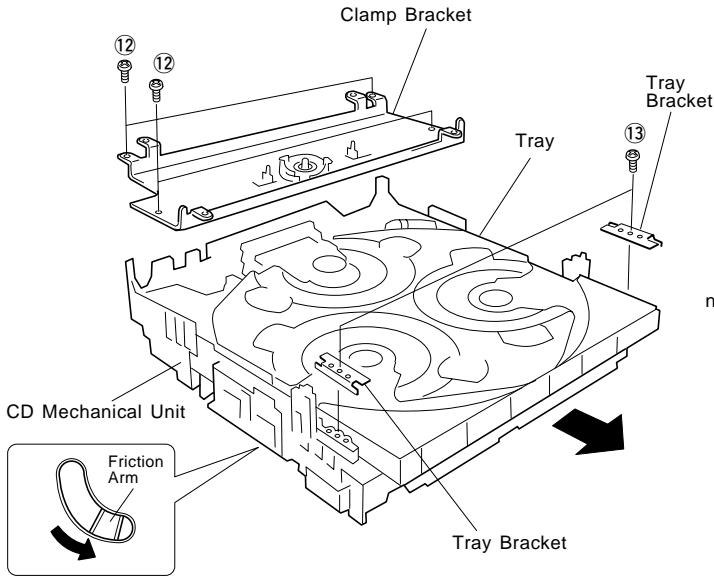

Fig. 10
- a. Remove 4 screws (12) and then remove the Clamp Bracket in Fig. 10.
- b. Remove 2 screws (13) and then remove the Tray Brackets in Fig. 10.
- c. Push the Friction Arm (the bottom side of the CD Mechanical Unit) with a screwdriver or the like and pull out the Tray forward as in Fig. 10.